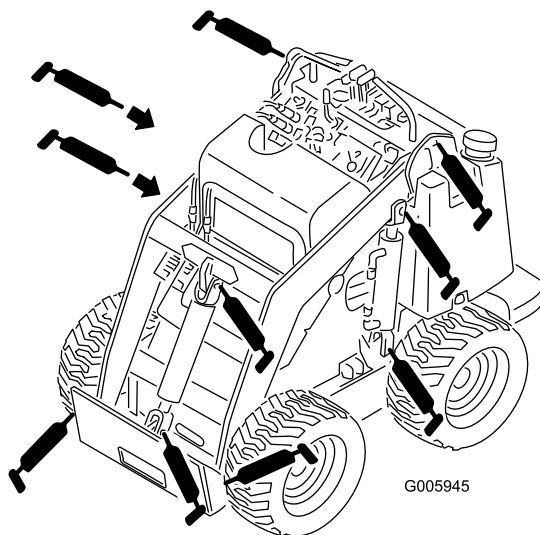
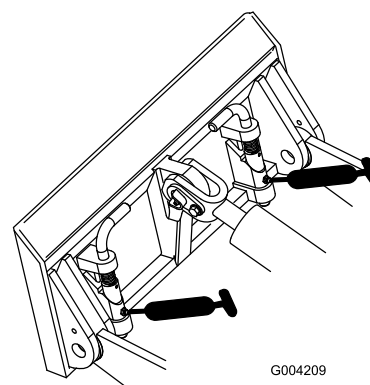

Figure 26
Figure 27
4. Connect a grease gun to each fitting (Figure 26 and Figure 27).